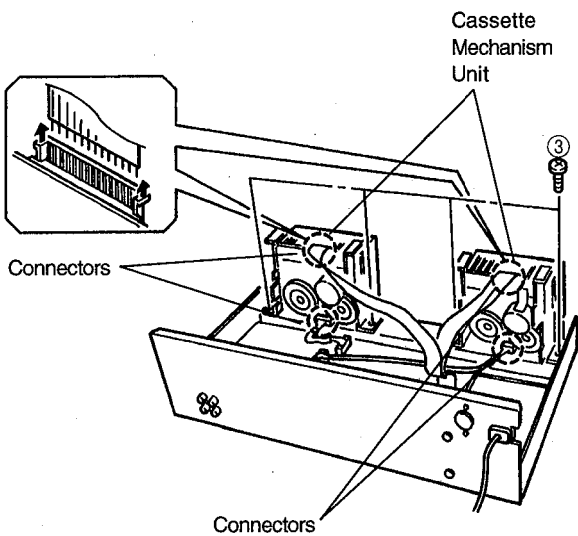

Fig. 2
- a. Remove 4 screws (③) in Fig. 2 and then pull out the Cassette Mechanism Units toward the back, gently.
- b. Remove 4 connectors (#1 to #4) at the Mechanism side in Fig. 2. (see page 4, INTERNAL VIEW)